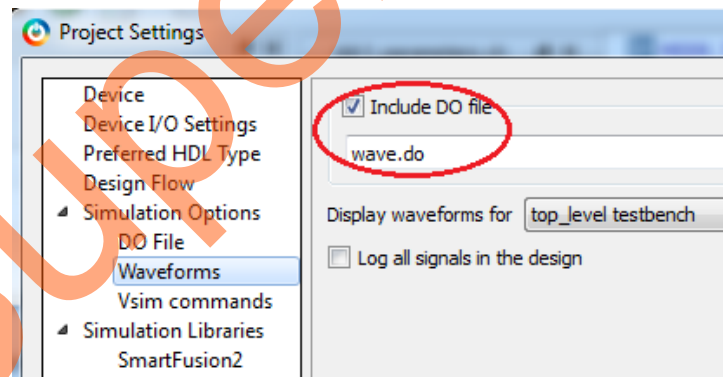

Figure 16 • Waveforms Settings
- Click **Project > Project Settings > Simulation Options > Waveforms**. Figure 16 shows the Waveforms settings on the right.
- Select the **Include DO file** check box and enter **wave.do** in the box as displayed in Figure 16.